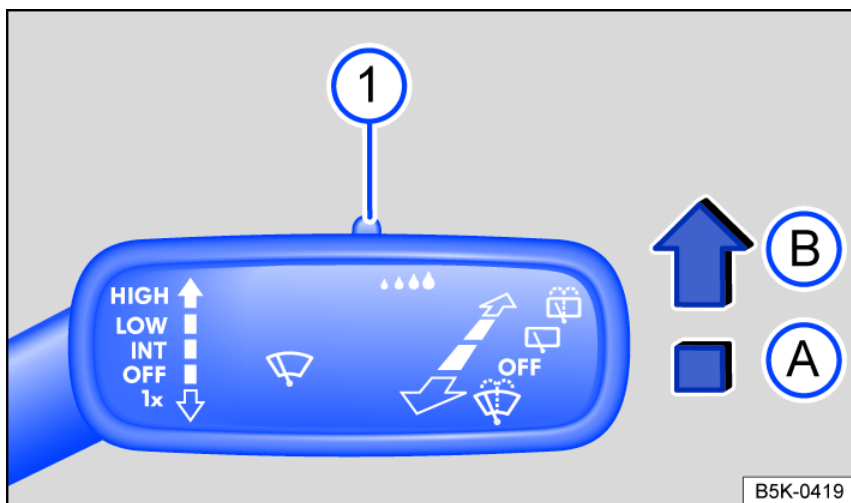

Fig. 101 On the right side of the steering column: windshield wiper lever.
Press the lever into the desired position *fig. 101*:
The sensitivity of the rain/light sensor can be manually adjusted with the switch in the windshield wiper lever *fig. 101* ① ⇒ ⚠.